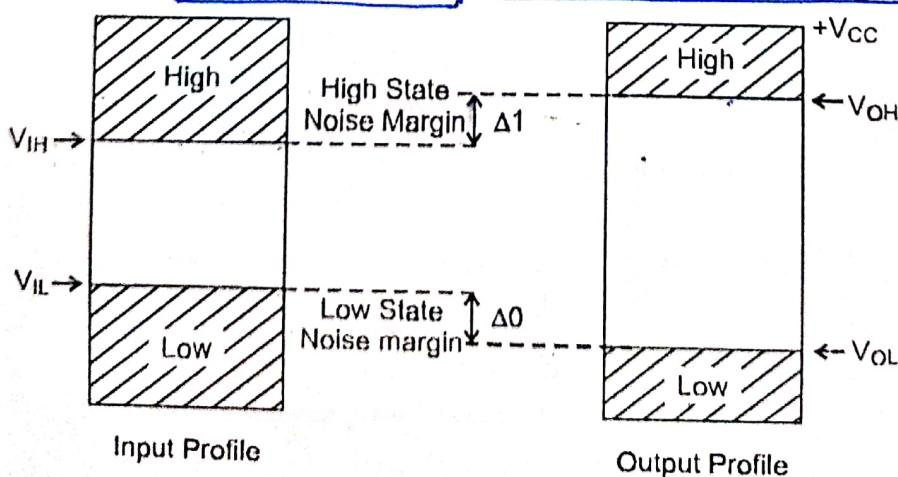

Fig. 10.31 Illustration of Noise Margins.
- Noise Margin Unwanted electric signals, called noise, can appear when connecting the logic devices. These noise signals can cause the voltage levels to rise or reduce from intended value. This may cause circuit malfunction. For example if noise causes an input voltage to reduce below the V_{IH} , then input is not recognized as logic 1 and thus the circuit malfunctions. The ability of a circuit to tolerate the effect of noise is called as **noise immunity**. The amount by which a circuit can tolerate the effect of noise is called **noise margin**. The noise margins are illustrated in Fig. 10.31. Margins shown in the figure are called **dc noise margin**, they are